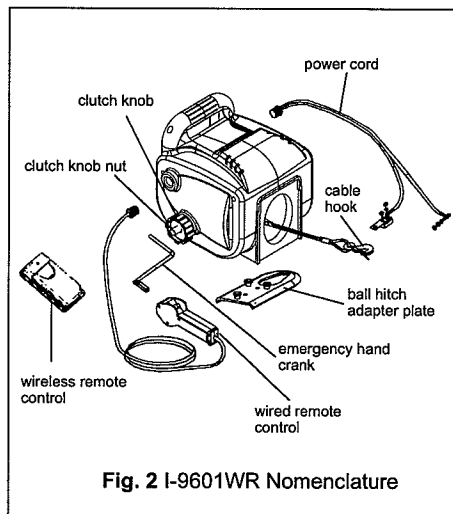

Fig. 2 I-9601WR Nomenclature
1. Hang the ball hitch adapter plate (**see Fig. 2**) onto your vehicle's hitch ball, with studs pointing upward. Align the three studs of adapter plate with corresponding holes in your winch base; slide forward to lock winch into place.